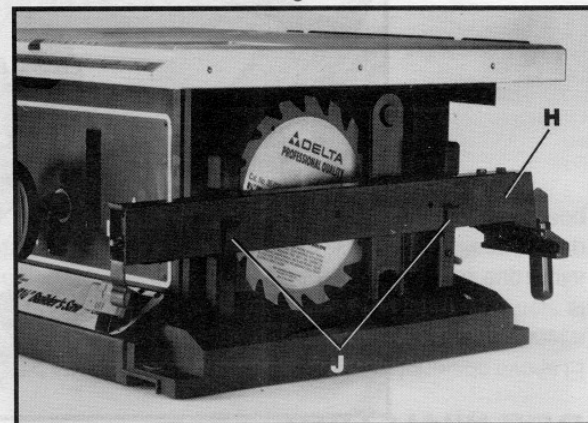

Fig. 46
4. The rip fence (H) Fig. 46, can be stored inside the two clips (J) on the right side of the saw cabinet, as shown.